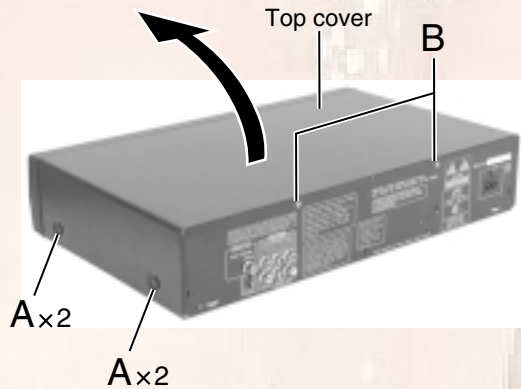

Fig.1
■ Removing the top cover (See Fig.1)
■ Removing the traverse mechanism unit (See Fig.1 and 2)